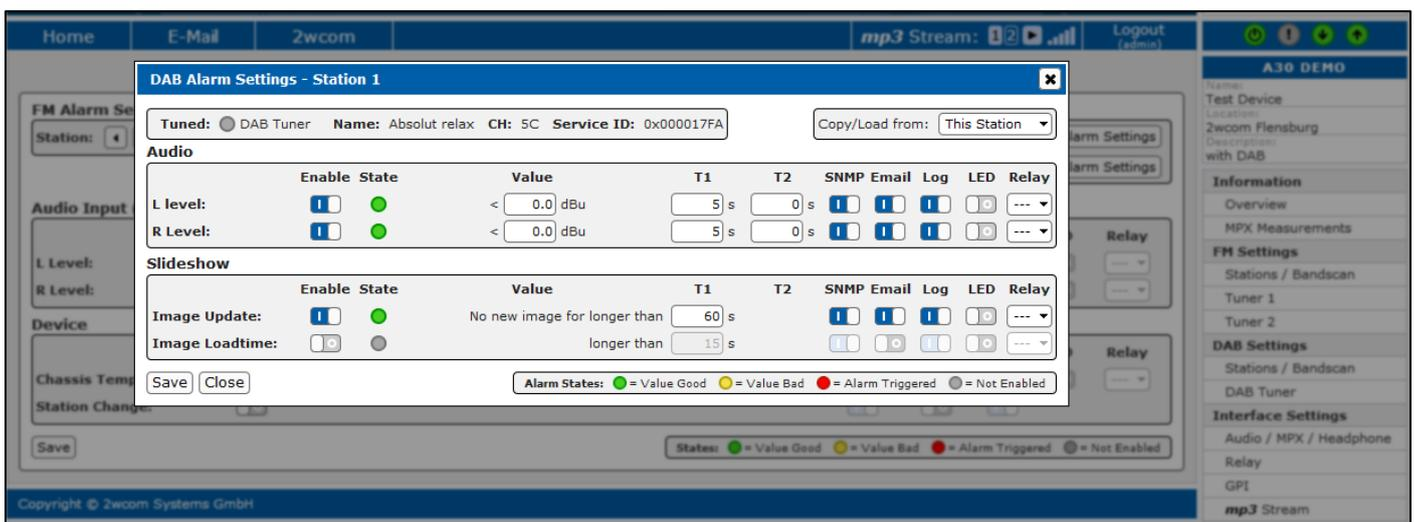

Fig. 33: Alarm Settings – DAB Station
You can edit alarm settings for station monitoring under **System Settings**→**Alarm** in the "DAB Alarm Settings" block in the "Station" field (see Fig. 33).
4. Enable each alarm function separately in the corresponding checkbox "Enabled", if this parameter should be monitored (see Fig. 33)